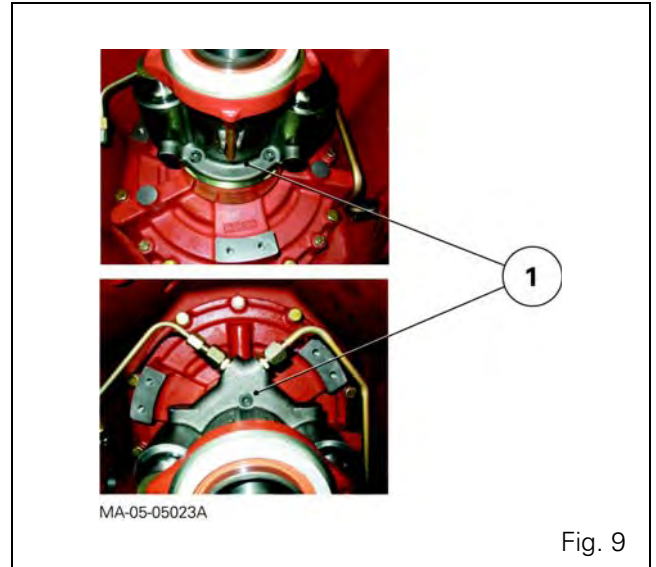

Fig. 9
21. After refitting the input unit, remove the tool ref. 3376883M1 and the handling bar from the front cover plate.
22. Assemble the spacer and hydraulic mechanism (1) of the engine clutch on the front cover plate of the input unit (Fig. 9 and chapter 4).